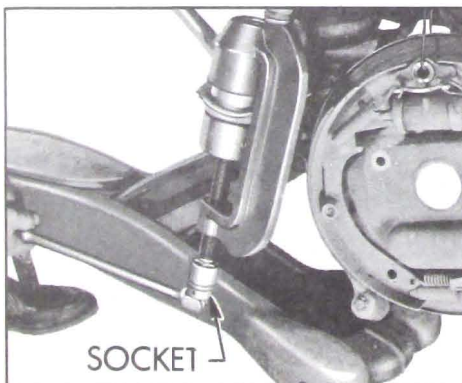

Figure 7-21—Installing Lower Ball Joint
3. With a suitable socket and handle force the ball joint into the lower control arm until it is fully seated. See Figure 7-21.